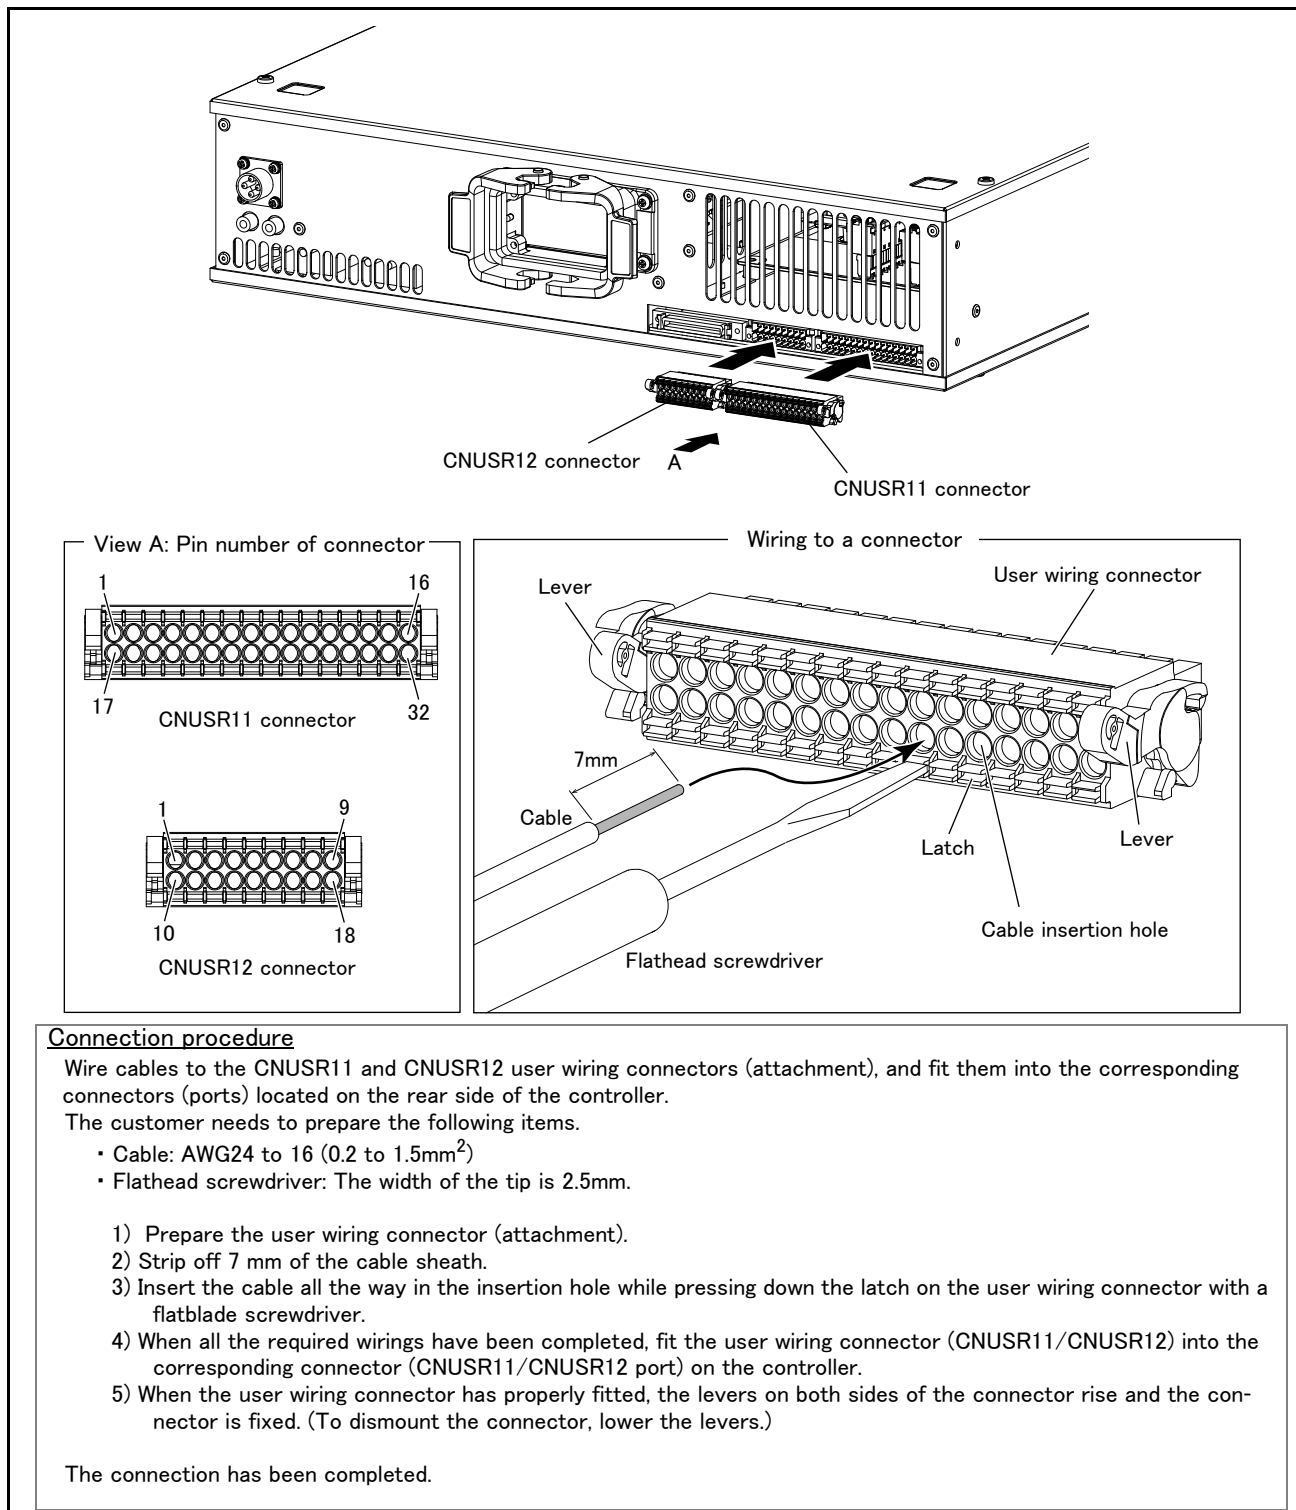

Fig.3-14 : Wiring method to the user wiring connector
* Refer to Page 135 "Fig. 3-14: Wiring method to the user wiring connector" for more details about how to wire a connector.